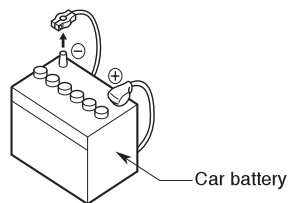

Figure 1
3. Be sure to disconnect the battery terminal before starting. This is to prevent short circuits during installation. (Figure 1)